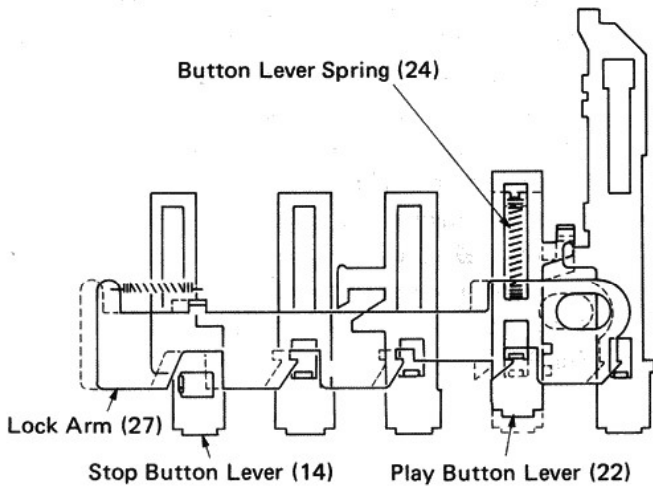

Fig. 13
- 2 Fig. 13 shows the mechanism in the PLAY mode.